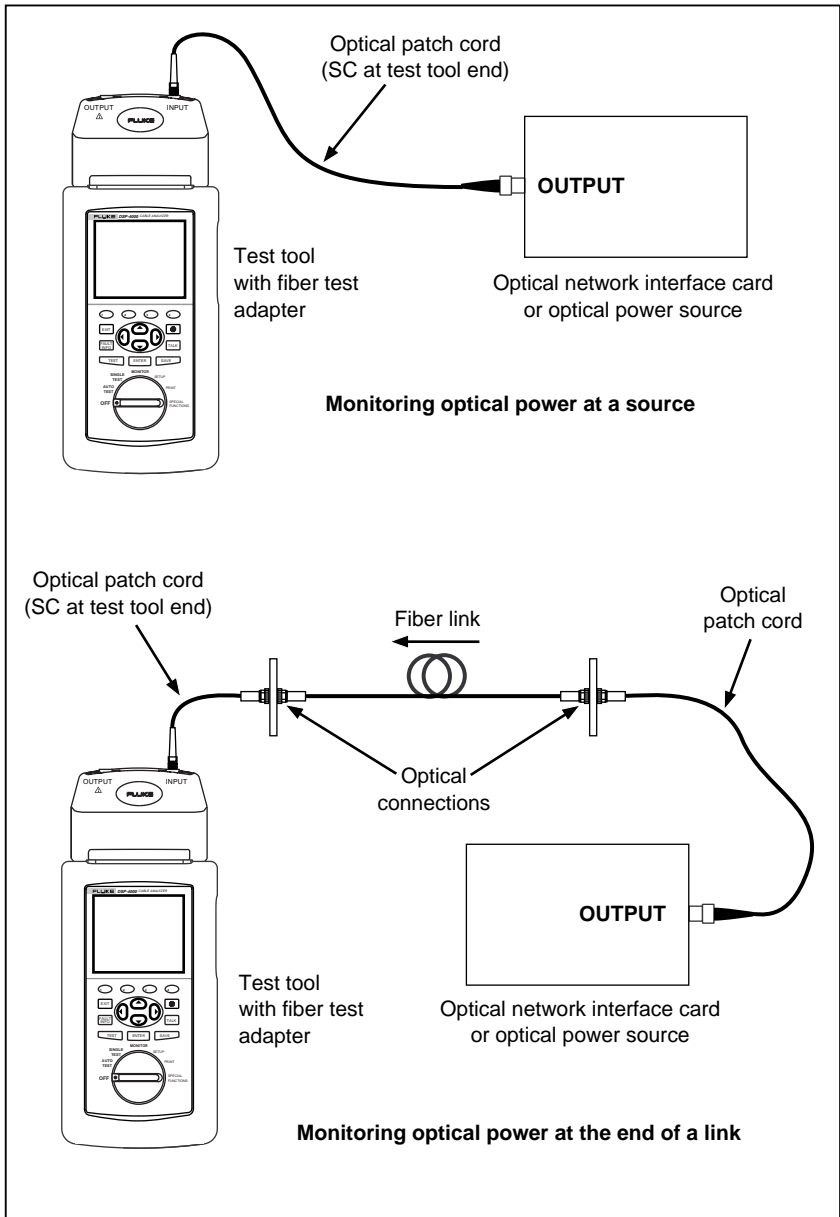

Figure 11. Monitoring Optical Power
2. Connect the test tool to the optical source as shown in Figure 11.